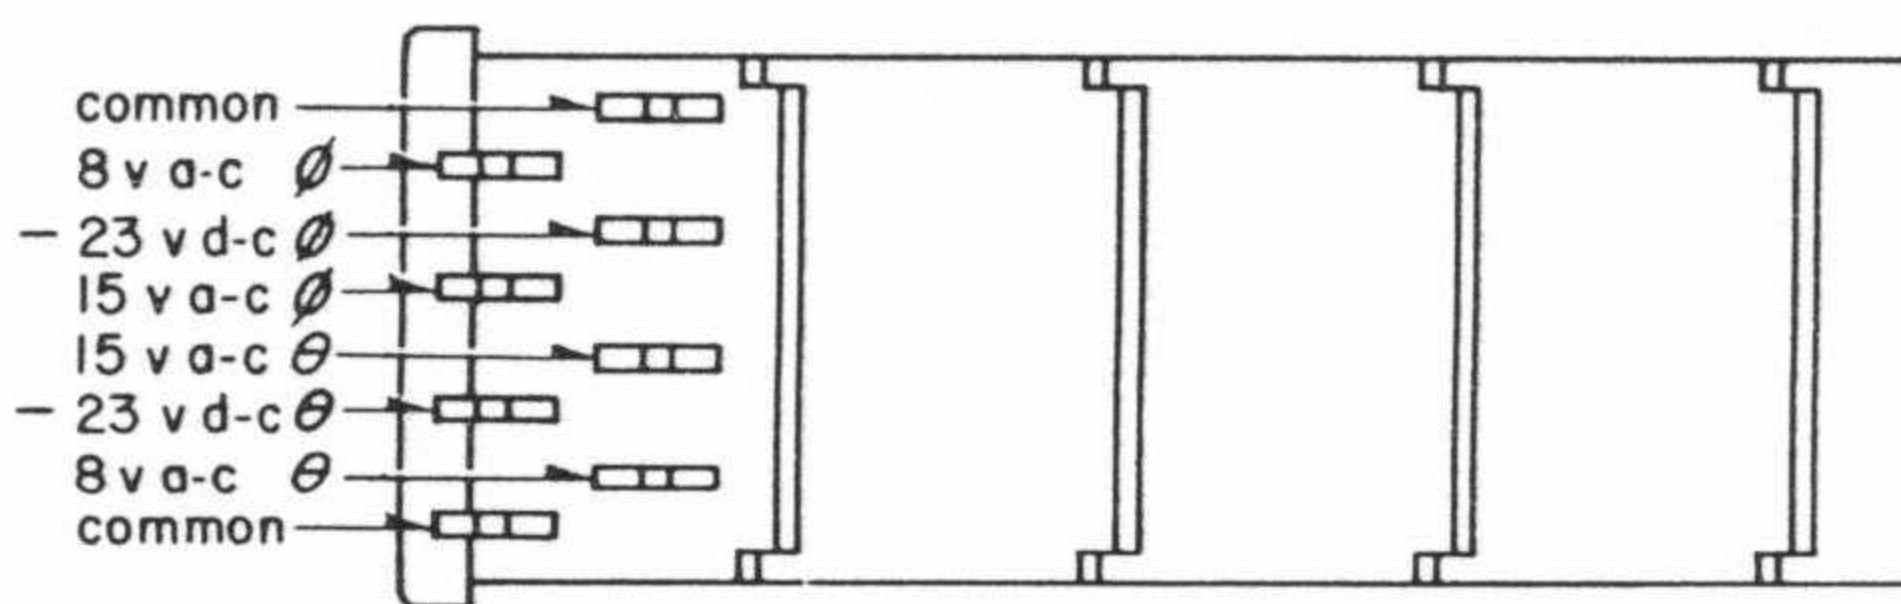

Fig. 44—Wiring of CYPAC power channel
*Horizontal-Mounted Channels (See Fig. 44)*